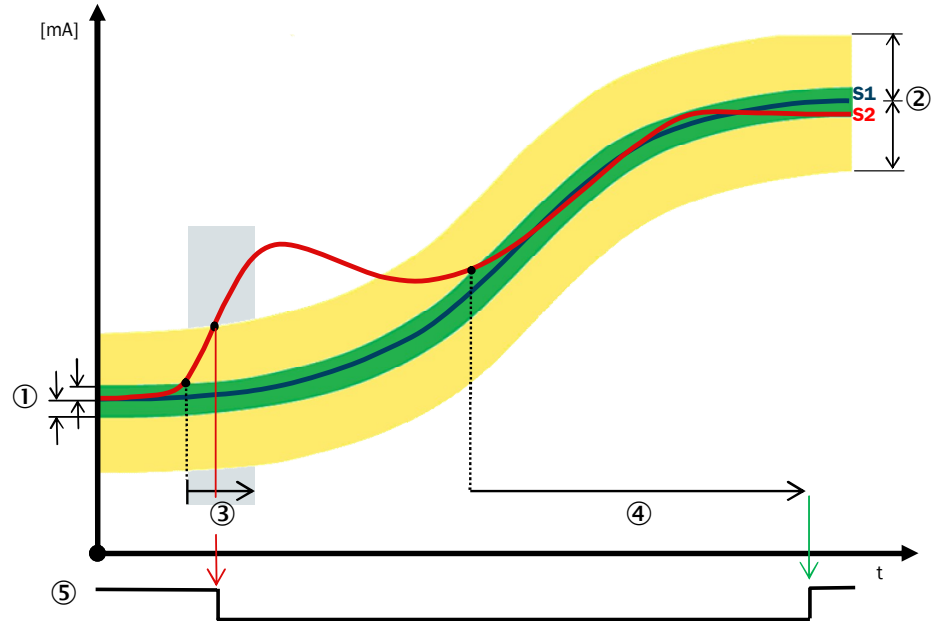

Figure 224: Exceeding the limited permissible increased difference
- The measured values from sensor AI1 and sensor AI2 deviate from one another by **more than the Limited permissible increased difference** (figure 224).